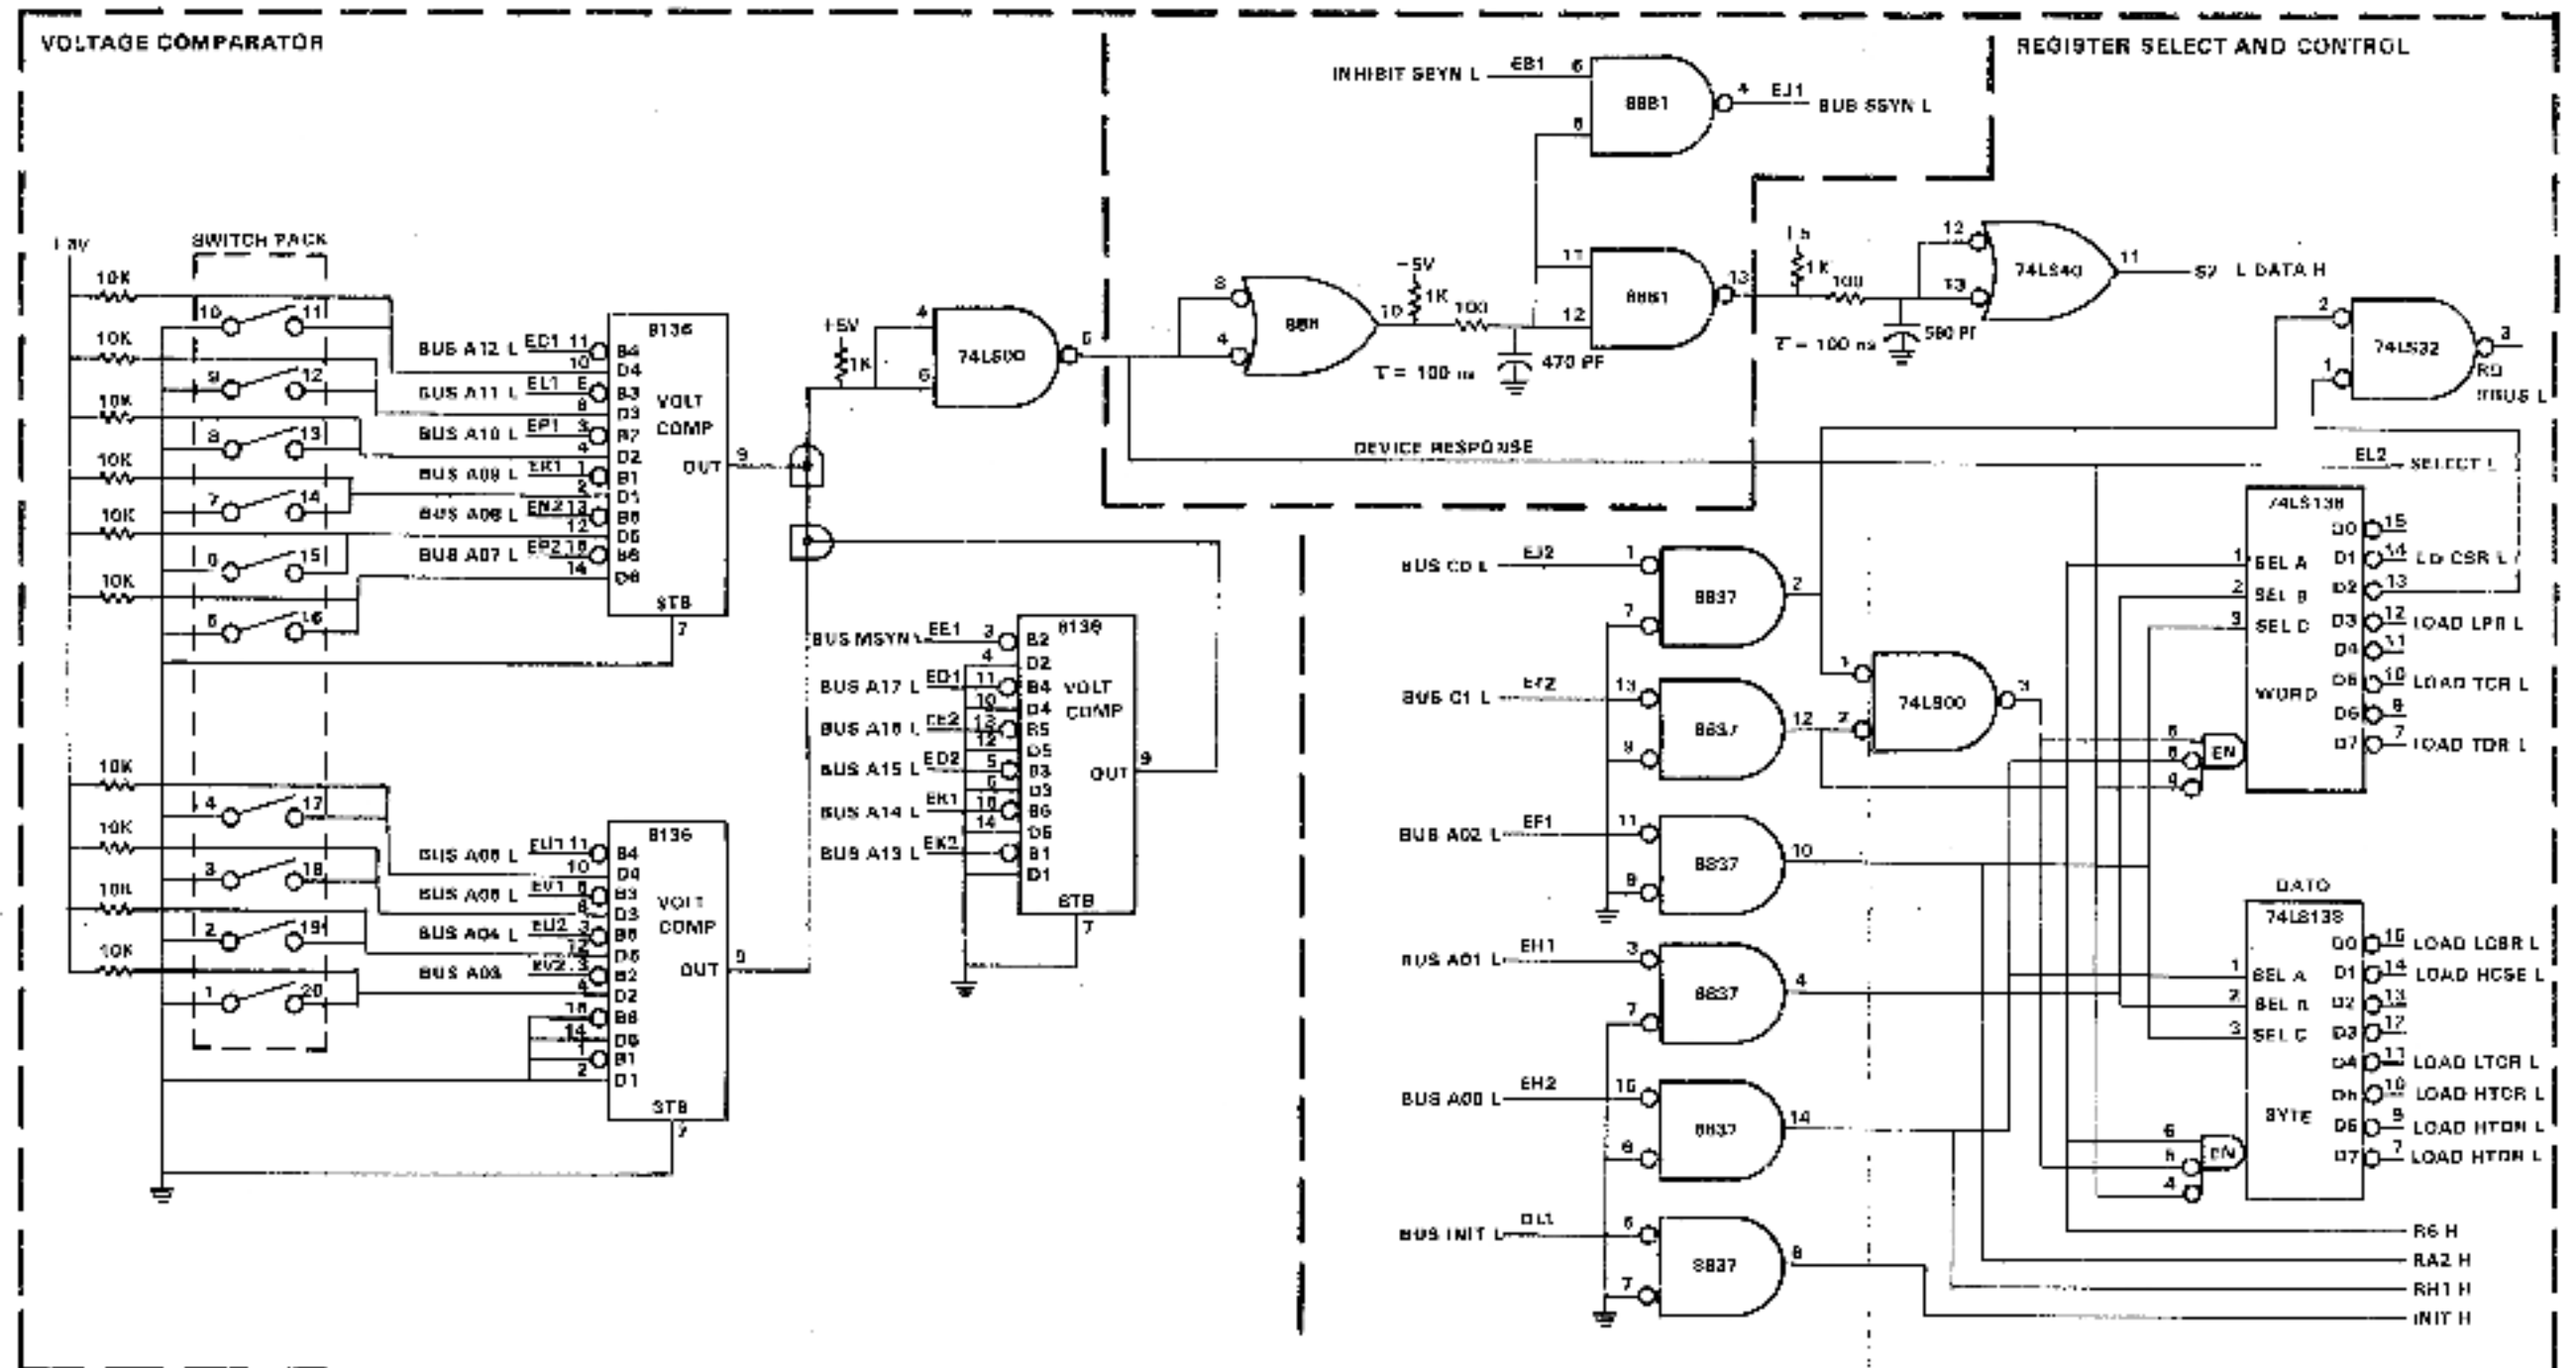

Figure 4-9 Address Selection Logic
4.5.1 Address Selection Logic (Figure 4-9)
The switches and resistor network (shown at the left of Figure 4-9) provide a reference voltage to be used by the voltage comparators. These voltages are compared with Unibus address bits A03 through A12. When a switch is open, a high-level voltage is compared to the incoming address bit; when a switch is closed, a low-level voltage is compared. The outputs of the voltage comparators are wire-ANDed to provide a single output that is at a high level when the device is selected. This only happens when the voltages on all three voltage comparators match; otherwise, the output remains low and the device will not respond. For example, if BUS A03 through BUS A10 are at a high level and BUS A11 and BUS A12 are at a low level, a match only occurs if switches 1 through 8 are closed and switches 9 and 10 are open. From the voltage comparator circuitry, the output is inverted and used by the device response logic and the register select and control logic, and is also sent to the multiplexer control logic (Paragraph 4.5.5).